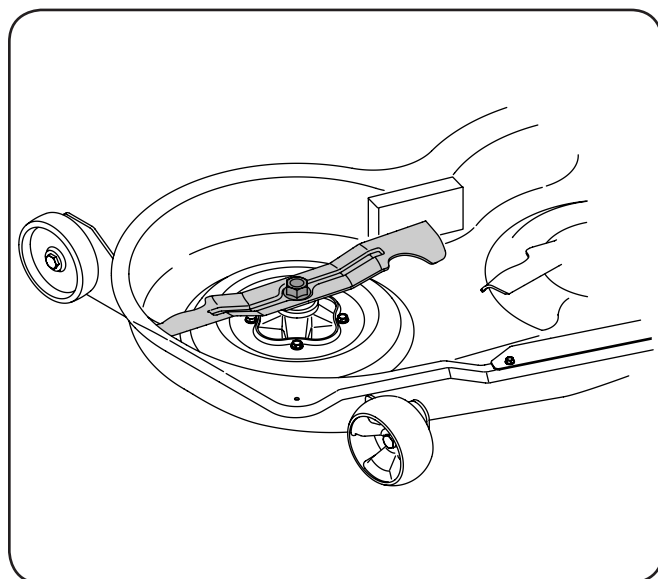

Figure 7-6
2. Place a block of wood between the center deck housing baffle and the cutting blade to act as a stabilizer. See Fig. 7-6.
3. Remove the flange lock nut that secures the blade to the spindle assembly. See Fig. 7-6.